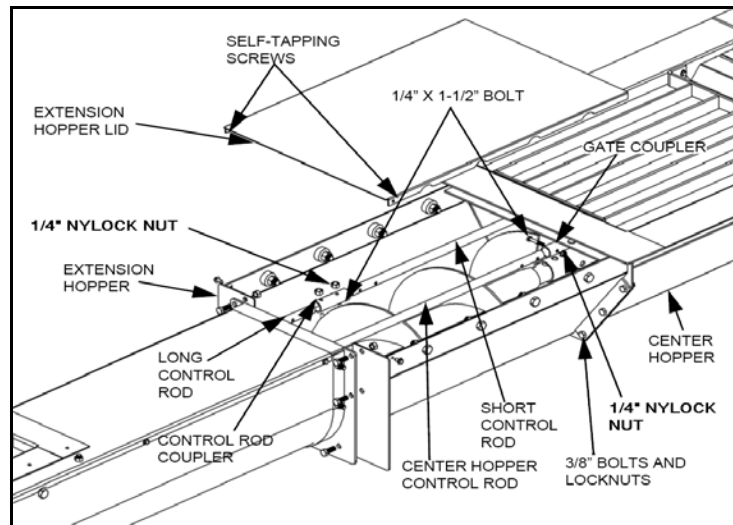

Figure 4.6
1. Insert the center hopper control rod into the gate coupler and secure with two 1/4" x 1-1/2" bolts and nylock nuts (**Figure 4.6**).
2. The shorter length of control rod is for the lower gearbox (on center hopper). Couple the short control rod to the long control rod with a control rod coupler and two 1/4" x 1-1/2" bolts and nylock nuts (See **Figure 4.6**).